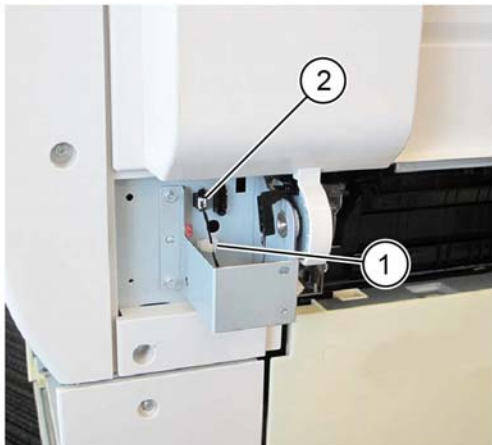

Figure 3 Connector
4. Disconnect the connector, **Figure 3**:
- Release the harness from the retainer (1).
- Disconnect the connector (2).